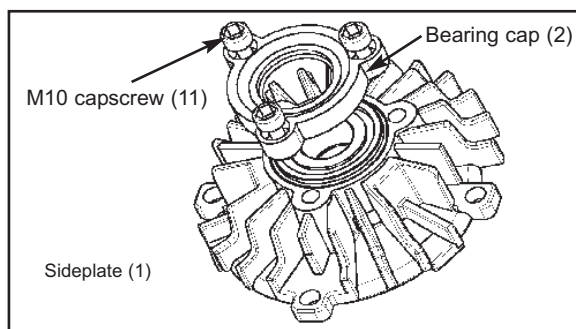

Figure 23
8. Install a new bearing cap O-ring, plus any shims, and attach the bearing cap to the sideplate with three M10 capscrews (11). Tighten the capscrews to 26 lbs ft (35 Nm) ; See figure 23.